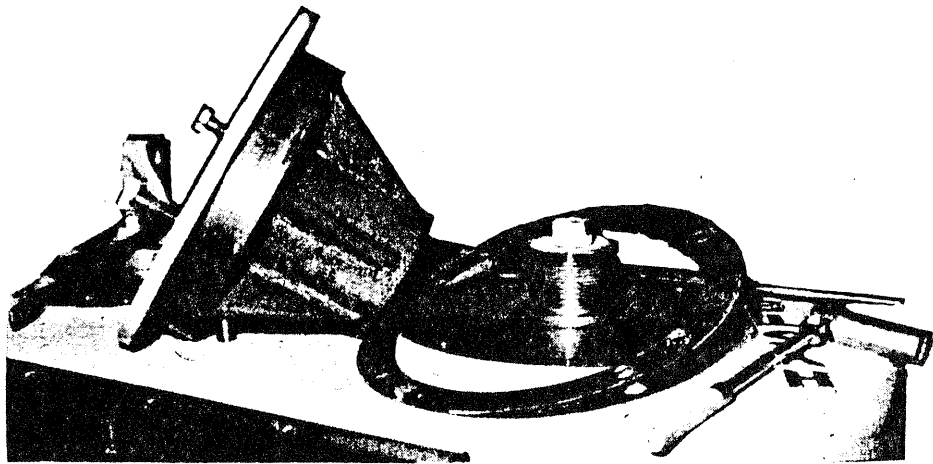

Figure 17
2. Remove bearing retainer as shown in Figure 17.